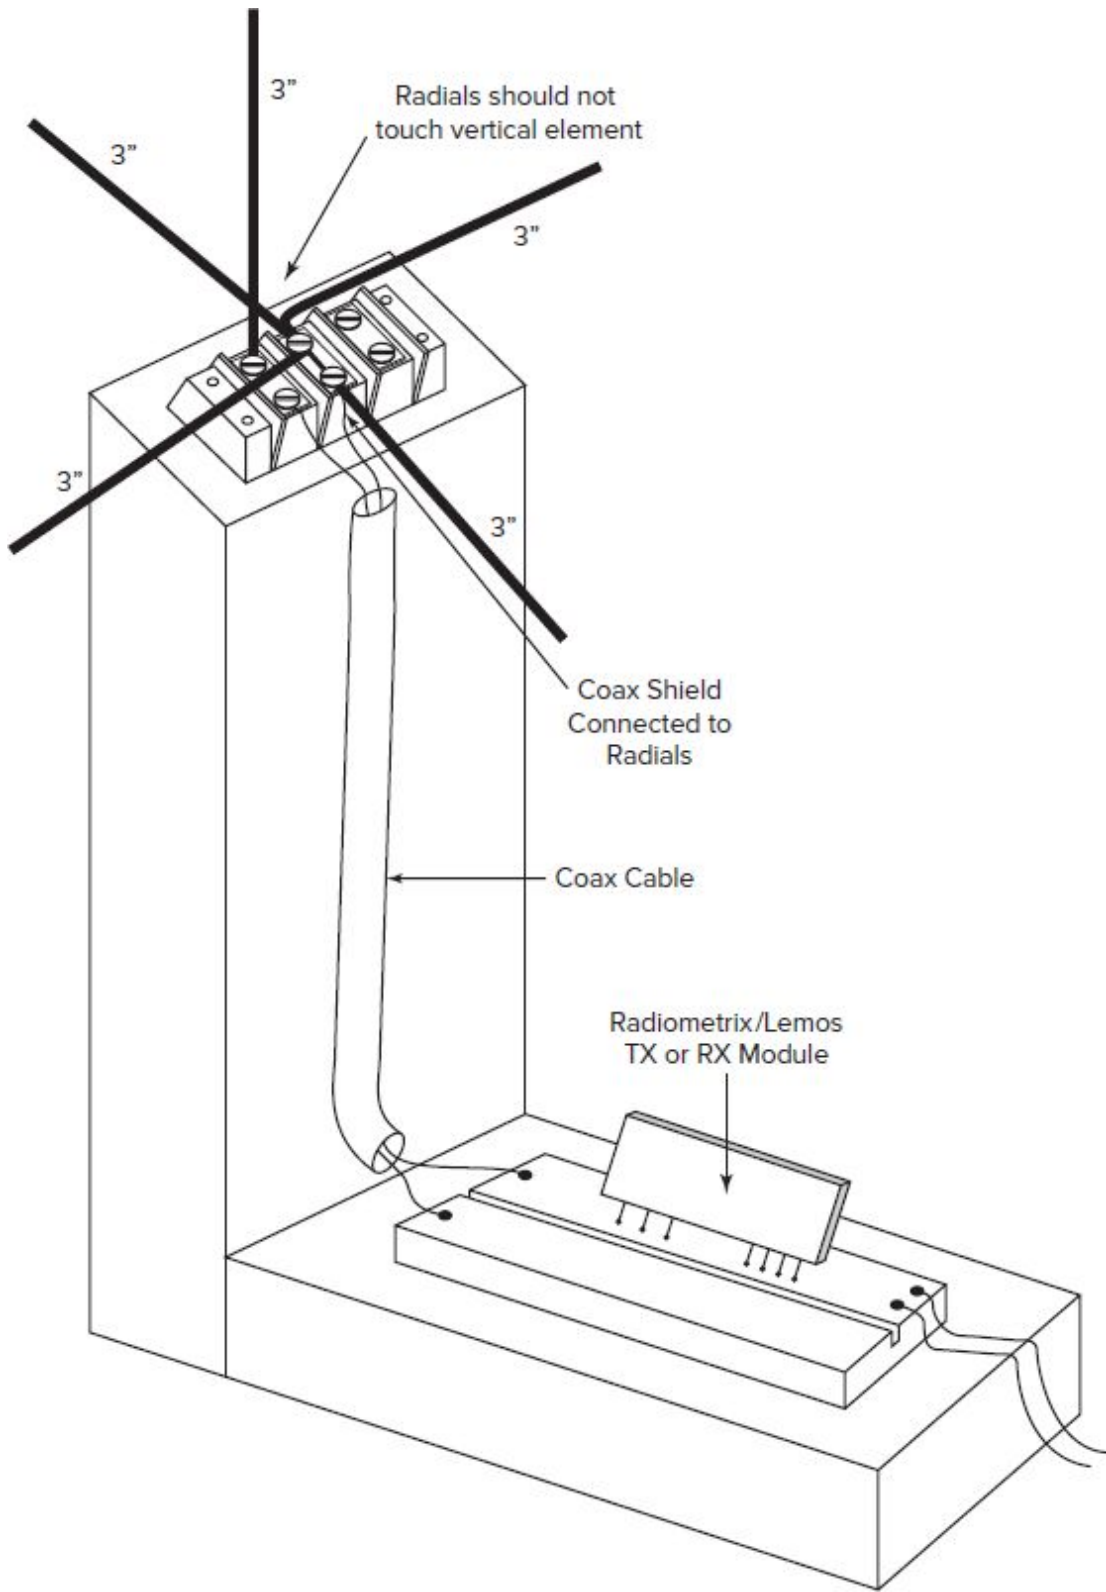

Fig. 16-8 Ground plane vertical antenna on the RX.
14. Construct the ground plane antenna on the receiver assembly as shown in Fig. 16-8. The four radials are made by crossing two lengths of wire and screwing them to the three-screw strip as shown. Bend the radials down slightly, as this will provide a better impedance match to the coax. The vertical element is one-quarter wavelength long and computed with the formula $L = 234/f_{\text{MHZ}}$. Convert L to inches by multiplying your value by 12. You can actually use one of the halves of the dipole for the vertical element.